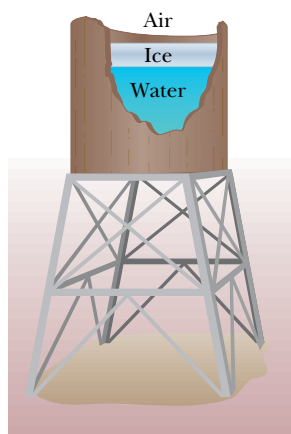

Fig. 18-46 Problem 61.
••61  **SSM** A tank of water has been outdoors in cold weather, and a slab of ice 5.0 cm thick has formed on its surface (Fig. 18-46). The air above the ice is at -10°C . Calculate the rate of ice formation (in centimeters per hour) on the ice slab. Take the thermal conductivity of ice to be $0.0040 \text{ cal/s} \cdot \text{cm} \cdot ^\circ\text{C}$ and its density to be 0.92 g/cm^3 . Assume no energy transfer through the tank walls or bottom.